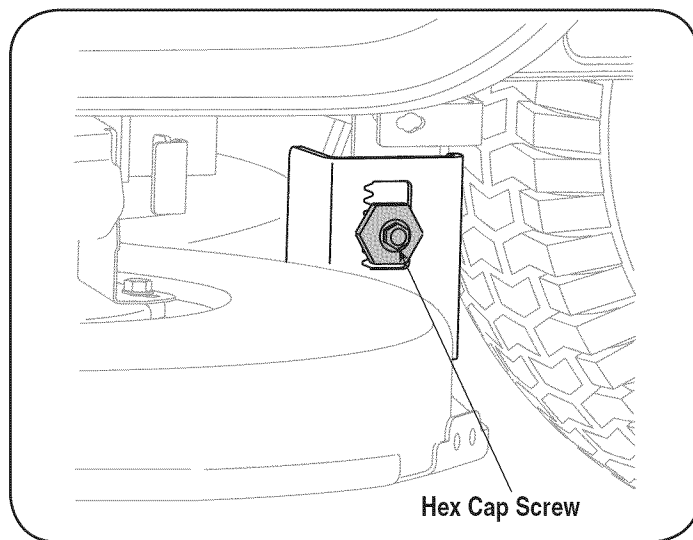

Figure 23
3. Loosen, but do NOT remove, the hex cap screw on the left deck hanger bracket. See Figure 23.